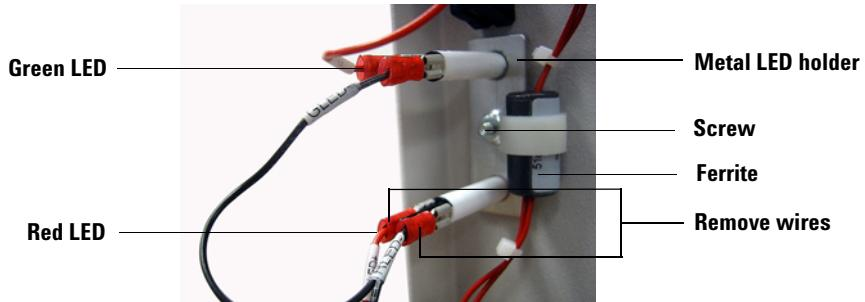

Figure 14 LED connectors.
- 2 Remove the + and – wires (marked **GLED+/-** or **RLED+/-**) from the faulty LED. (See Figure 14.)